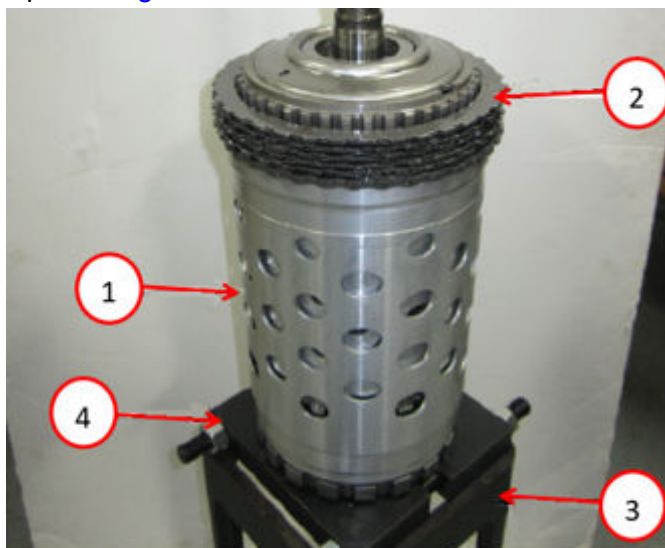

**Fig. 33**
49. The B clutch, dependent on transmission Julian Date, may contain wave springs that sit around each fiber. There will be five friction plates (discs), five wave springs, five steel plates, one cover plate, one snap ring, and one wave plate (last plate far left in figure) Fig. 33.